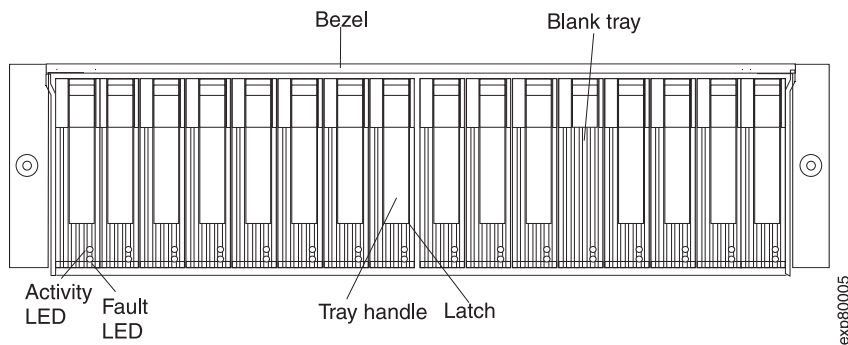

Figure 56. Hot-swap E-DDM LEDs
2. Check for Fault LEDs shown in Figure 56. If any amber LEDs are lit, see “Solving problems” on page 133.